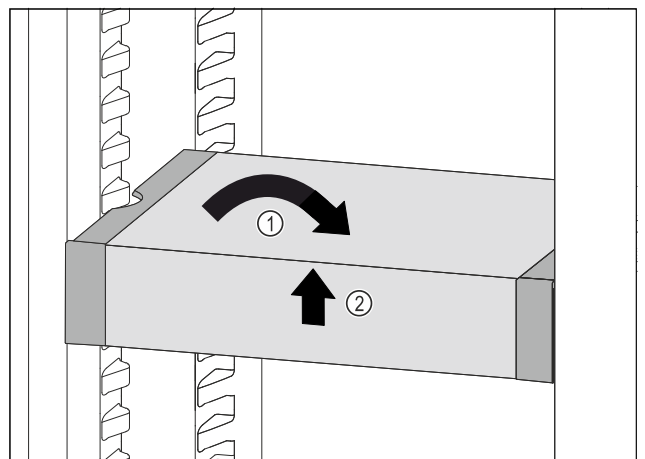

Fig. 54
- Set VarioSafe straight. Fig. 54 (1)
- Lift VarioSafe at the front. Fig. 54 (2)